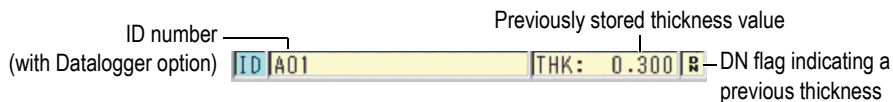

Figure 3-3 The ID bar
The ID bar (available with the Datalogger option), located at the top of the measurement screen, contains the ID for the actual thickness-measurement location and the previously stored value (see Figure 3-3 on page 36). The download indicator (R) appears when the previously stored thickness measurement comes from a file rather than a newly acquired value.